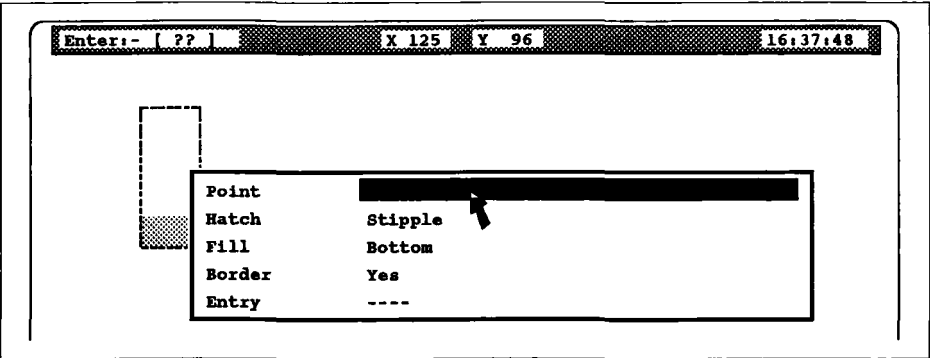

Figure 4.10 BAR Pop-Up Menu
- **BAR** is a powerful tool used to place a box on the screen that, when linked to an analogue point in the control strategy, acts as a vertical or horizontal bargraph. You can also link BARs to digitals, or leave them as unlinked graphic elements. Note that the BAR tool is also very useful for drawing filled *static* rectangular shapes that can build up into more complex forms representing pipework, plant etc. in a mimic. Figure 4.10 shows the BAR pop-up configuration menu.